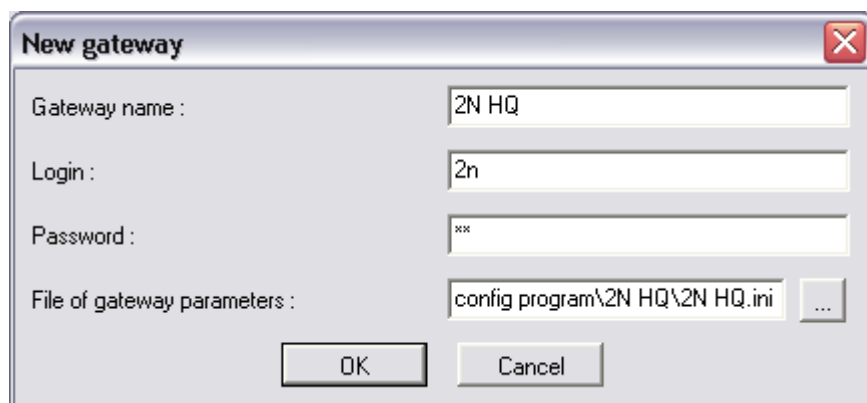

Fig. 21 – Gateway Editing Window
- *Add* - click on *Add* to open a window with some essential data necessary for the gateway identification (see Fig. 21). Enter the gateway name chosen by you into the *Gateway name* item. In case that gateway has activated secure access, it is recommended to complete the *Gateway address*, *Username* and *Password*. Eventually, complete the *File of gateway parameters* including the directory path and filename.